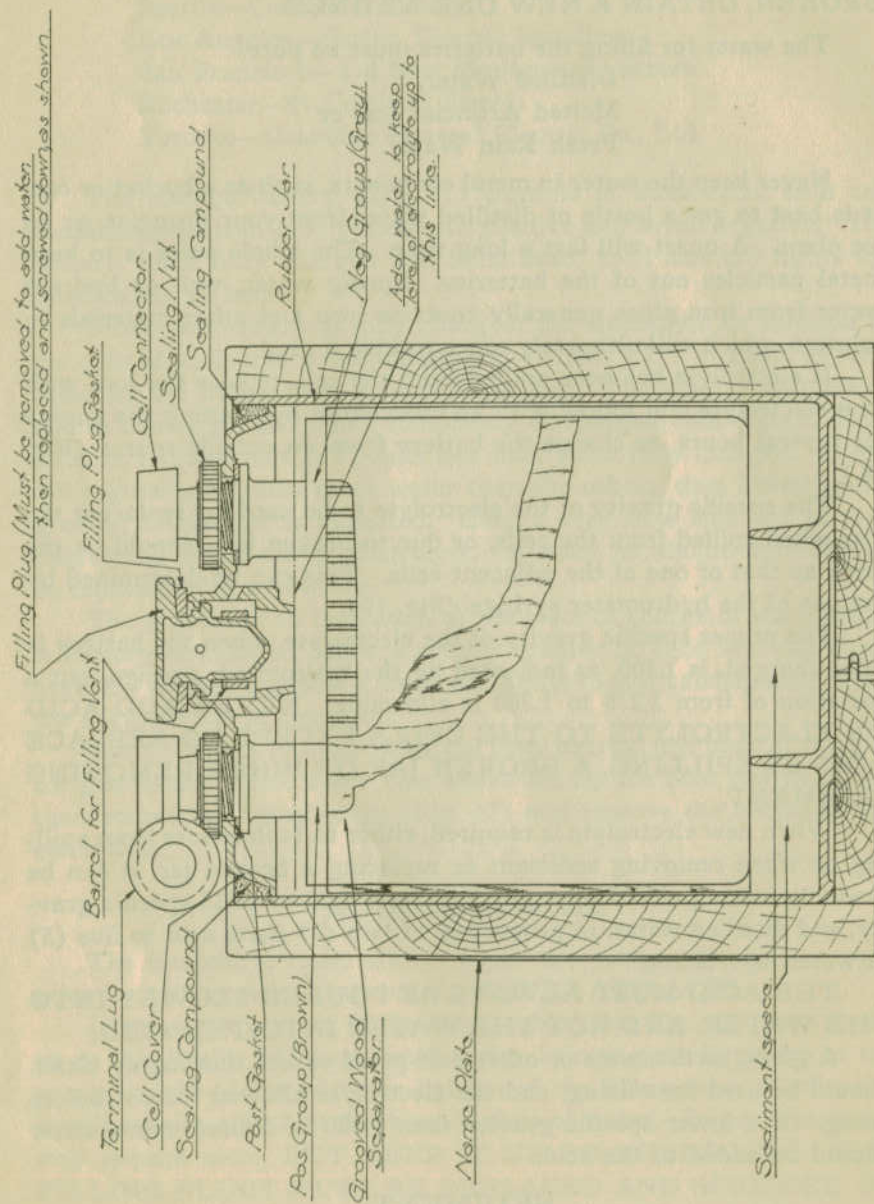

Fig. 17
The storage battery (Fig. 17) consists of three cells, each cell containing thirteen (13) plates—six positive and seven negative. The battery when fully charged will burn head, cowl and tail lights approximately 16 hours.
The battery is located under the floor boards, just back of the motor generator. Once every two weeks lift up the floor boards of the car, remove the filling plugs (Fig. 17) and observe the height of the electrolyte.
If below the bottom of the filling tubes (See Fig. 17, "keep liquid up to this line"), add pure, fresh water, bringing the liquid up to the proper height—level with the bottom of the filling tube. Ordinarily it will require only 2 or 3 tablespoonfuls of water. In hot weather it may require more, **BUT KEEP IT UP TO THIS POINT. THE FILLING PLUGS MUST BE REPLACED AND SCREWED UP TIGHTLY AFTER FILLING.**
If the electrolyte is below the top of the plates, or so low that enough cannot be drawn into the barrel to allow of a proper reading of the hydrometer, fill the cell to the proper level (see Fig. 17) by adding pure water; then do not take a reading until the water has been thoroughly mixed with the electrolyte. This can be accomplished by running the engine for several hours.